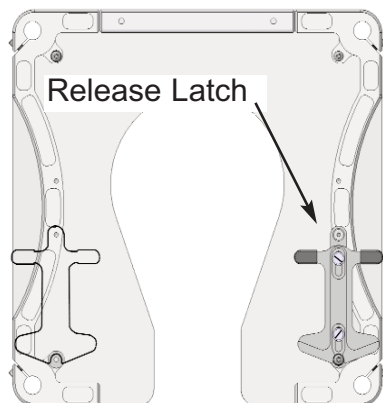

Figure 26
**D Release Latch:** Verify that the release latch is fully engaged on the slider seat before removing the connector bridge (Refer to Figure 26).